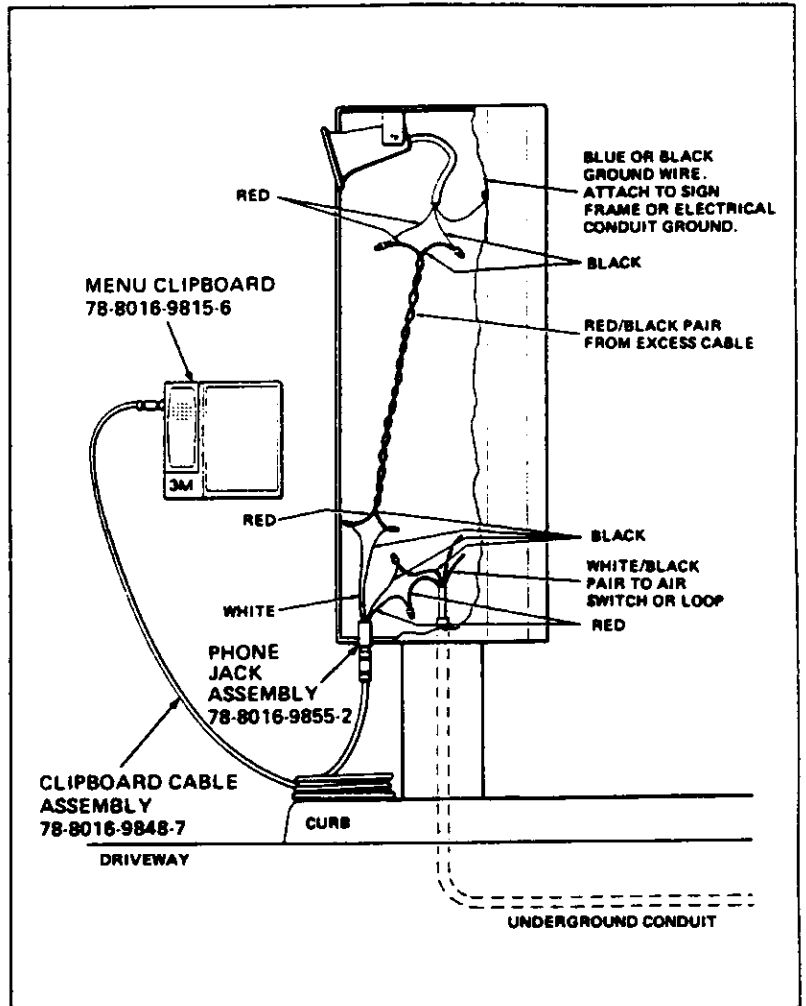

Figure 1. Menu Clipboard Wiring
5. OPTIONAL MENU CLIPBOARD COMPONENTS - Drill a 3/8-inch hole in the bottom of the menu sign and install the menu clipboard components per figure 1.